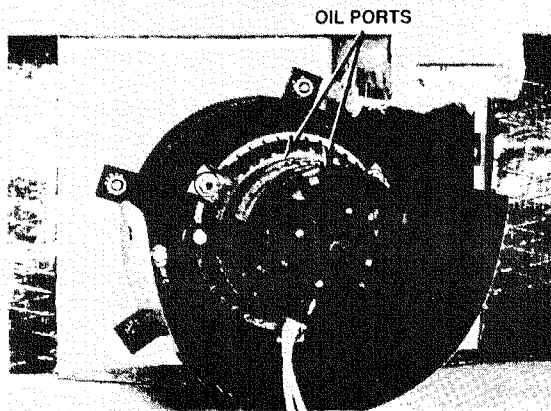

Figure 24 - Vent Blower Motor
If desired, the vent blower motor may be oiled annually with six (6) drops of Anderoil 465 oil (three (3) drops in each oil tube - Figure 24). TO AVOID PREMATURE MOTOR FAILURE, DO NOT OVER OIL.